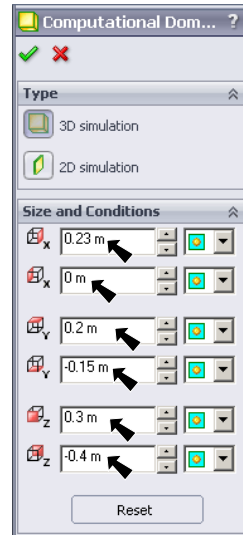

Fig. 10
Step 2. Set values as shown here and Fig. 10.